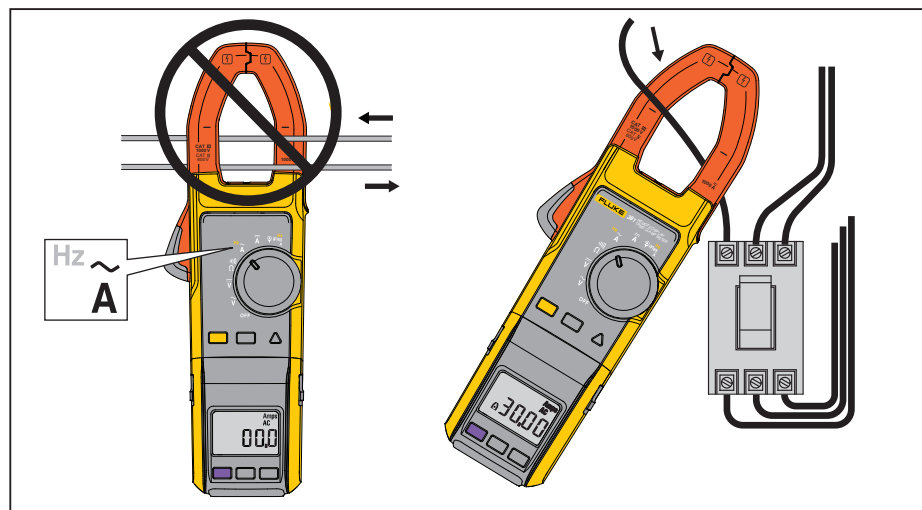

Figure 4. Current Measurement with Jaw
5. View the reading on the display. See Figure 4.
Current flowing in opposite directions cancels each other. If current is moving in opposite directions, place one conductor into the clamp at a time. See Figure 4.